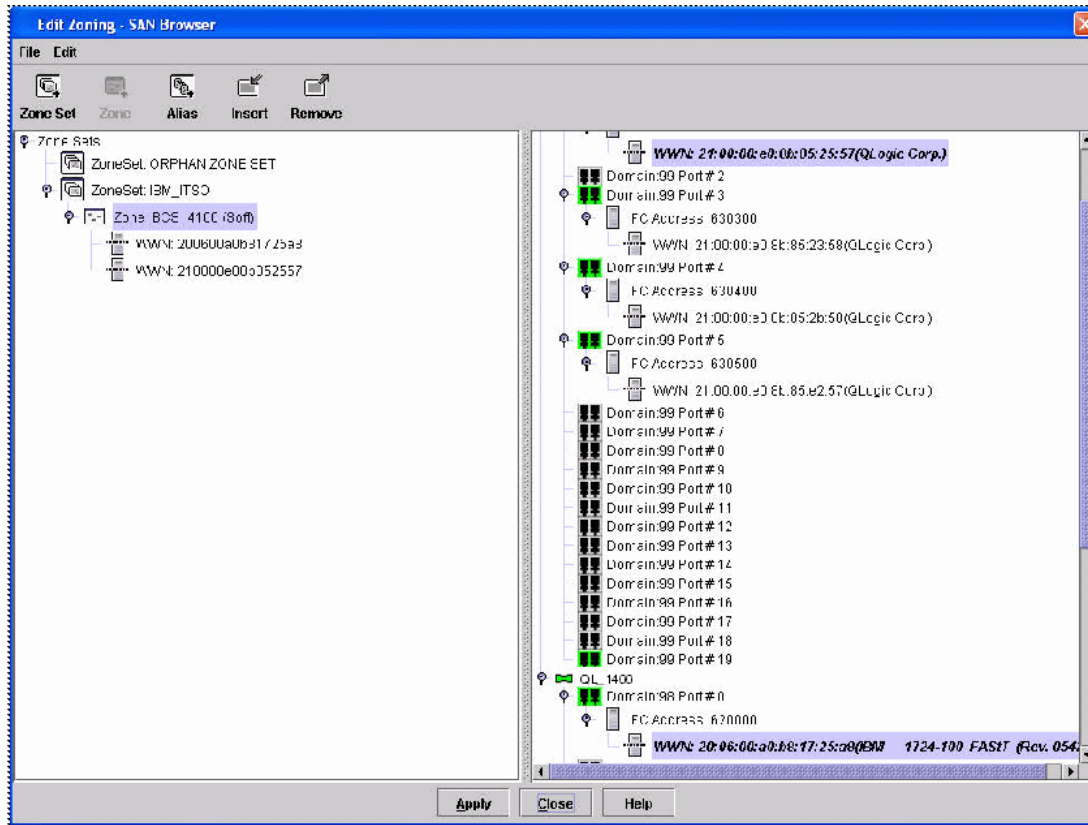

Figure 7-63 Edit Zoning - SAN Browser window
23. Click the **Close** button to exit the Edit Zoning dialog window (Figure 7-63 on page 219).